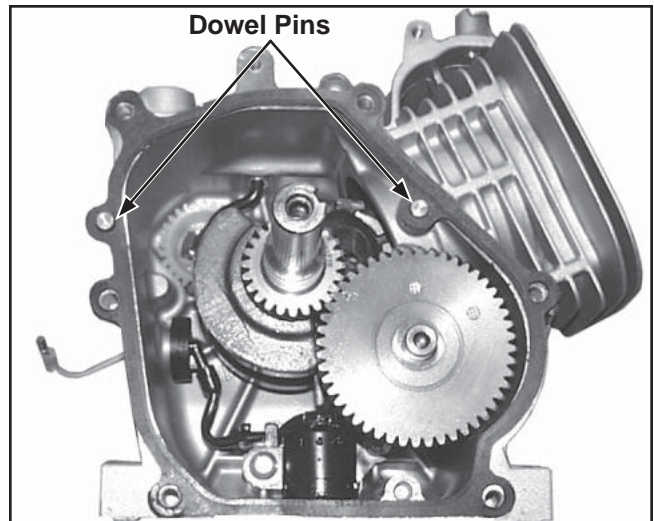

Figure 9-46. CH270 Closure Plate Gasket and Dowel Pins.
2. Remove the closure plate gasket and dowel pins if required from the crankcase. See Figures 9-46 and 9-47.